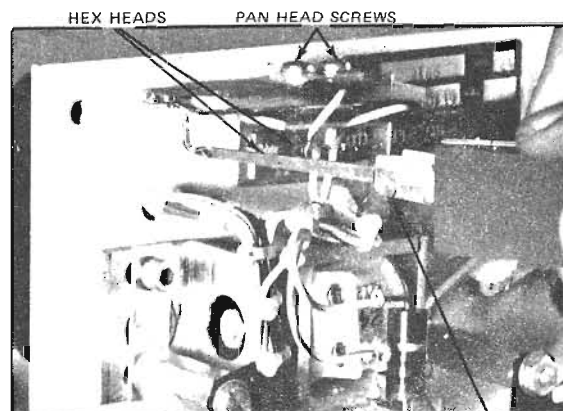

FIGURE 55
- (a) Check interrupter switch blade tension at contact. Check each blade individually. The contact should not break at 25 grams (.89 oz) but should break at 35 grams (1.25 oz). Use a 10-80 gram gauge. See Figure 55.